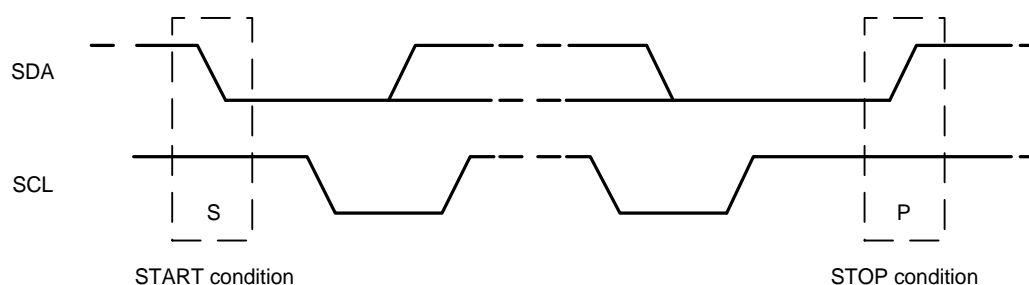

Figure 8. START and STOP Conditions
Communication on the I²C bus starts when the master puts the START condition (S) on the bus, which is defined as a HIGH-to-LOW transition of the SDA line while SCL line is HIGH (see figure below). The bus is considered to be busy until the master puts a STOP condition (P) on the bus, which is defined as a LOW to HIGH transition on the SDA line while SCL is HIGH (see Figure 8).